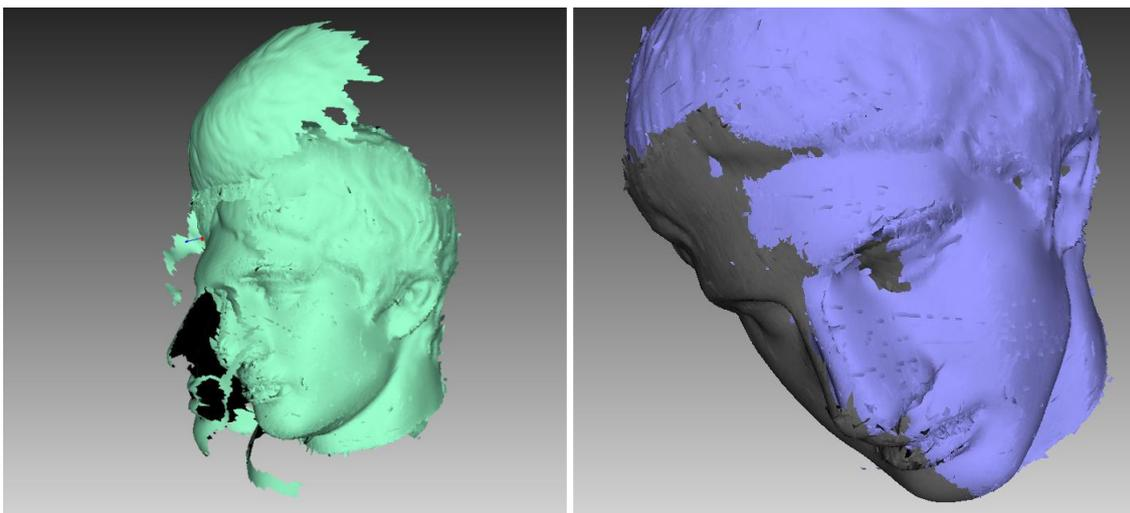

Figure 75: Global-registration errors: wrong settings on left and gap between scans on right.
- After the global-registration algorithm finishes, the frames are in disarray (see Figure 75, left) or the frame positions are unchanged. This error occurs because the application is configured for a different scanner type than the one that captured the data. Change the device type in the application settings (see Algorithm Settings).
- The algorithm has completed successfully, but a gap exists between two or more scans (see Figure 75, right). Select just these scans in the *Workspace* panel and run the global-registration algorithm. If the scans have drawn closer to each other but have failed to align after the algorithm finishes, increase the number of iterations and rerun the algorithm. Repeat this process until you achieve full alignment, then run global registration once again for all data. If you are unable to align several problematic scans, try aligning just two of them, then gradually increase the number of scans until all of them are aligned.